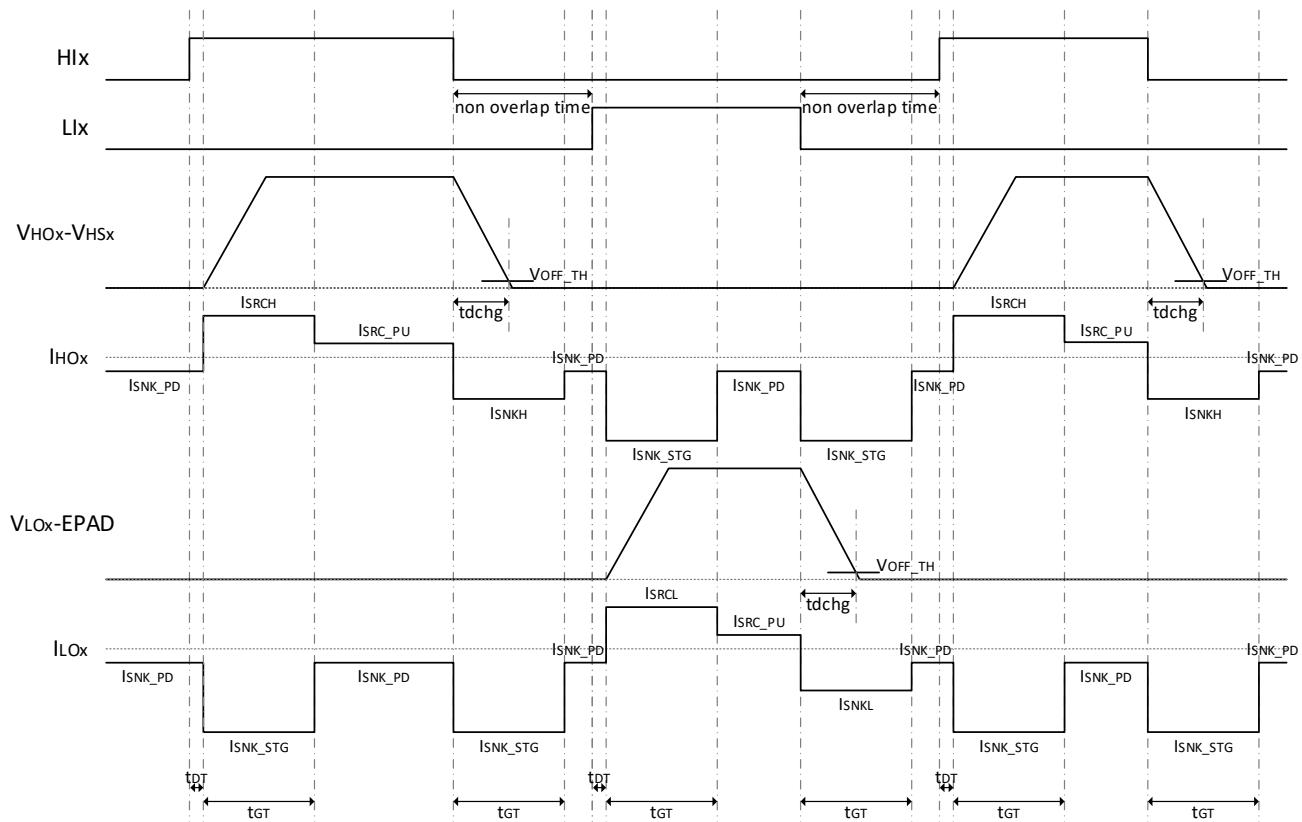

Figure 6.4-5 Gate Drive Timing Diagram with DIS\_SADT=1b if the HI/LI Inserted Dead Time is Longer than Maximum Gate Transition Time
**Note:** The inserted dead time should be shorter than the  $t_{GT}$  setting in order to properly drive the MOSFETs. The duration of driver peak source/sink current is terminated after reaching the full  $t_{GT}$  duration. Refer to Figure 6.4-5. And the inserted dead time must be longer than the MOSFET discharge time “ $td_{chg}$ ” to avoid the shoot through current of the half-bridge MOSFET.
Figure 6.4-5 shows the gate drive timing diagram with DIS\_SADT=1b if the HIx/LIx (x=A,B,C) inserted dead time is longer than maximum gate transition time (tGT). This case means: